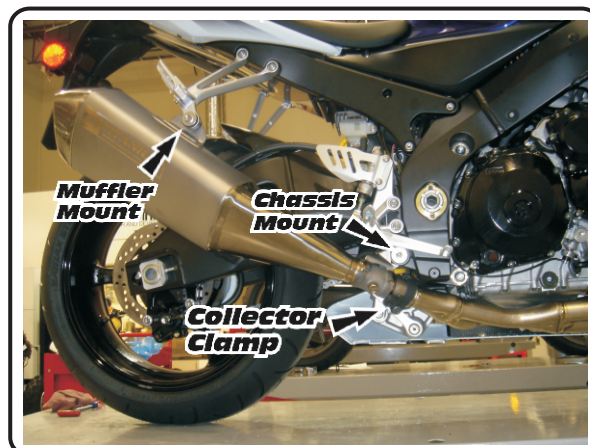

Fig. 2
- 3 Unbolt stock muffler and tail-pipe from passenger foot rest mount and frame chassis mount. Loosen stock collector clamp and remove stock muffler assembly from collector outlet. (See Fig.2)
- 3 With ignition in OFF position, disconnect the grey wire harness plug from the ECU (See Fig. 2).